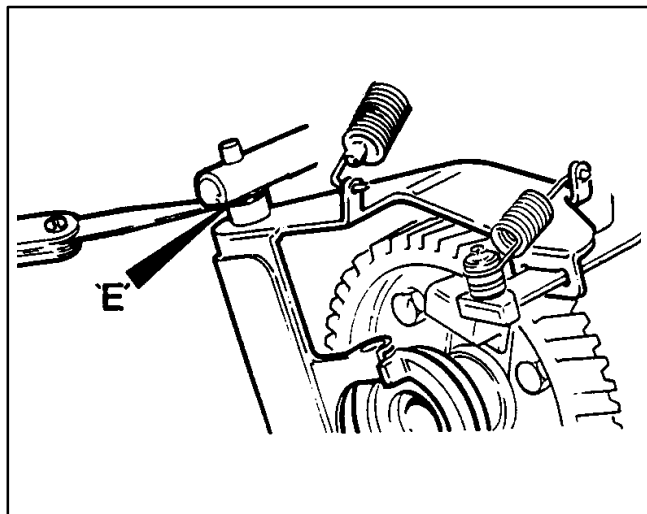

FIGURE 8-45. GOVERNOR "E" SETTING
2. Check governor lever assembly end play ("E" in Figure 8-45). Add or subtract 0.25 mm shims around the top pivot pin only to obtain a 0.1-0.3 mm (0.004-0.012 inch) end play.